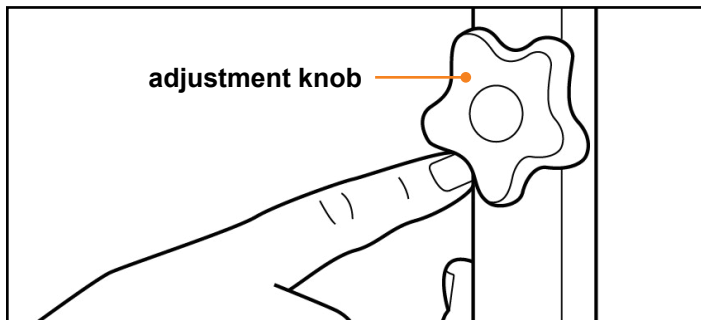
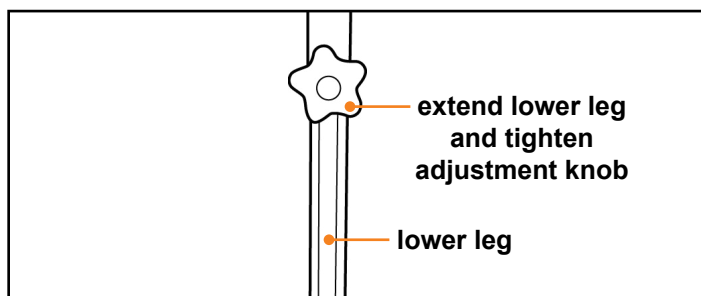

Fig.44
Fig.45
10. Loosen the adjustment knob of the Ground Support assembly (Fig.44) and extend the lower leg of the assembly to the ground (Fig.45) to support the roll tube. Re-tighten the adjustment knob.